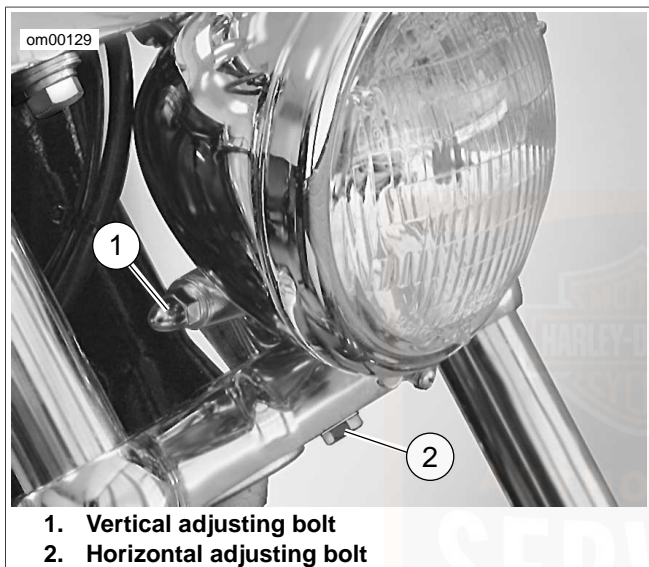

Figure 70. Headlamp Adjustment: FXSTD
1. See Figure 70. Loosen horizontal adjusting bolt (2) to adjust headlamp beam side to side.
3. Loosen vertical adjusting bolt (1) to adjust headlamp up or down.